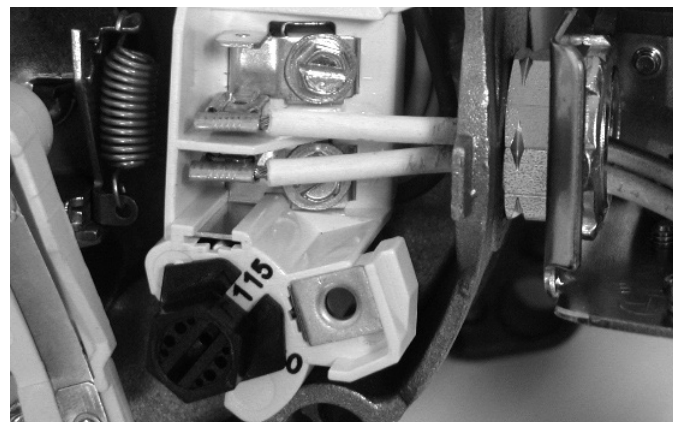

Figure 9 - Voltage set to 115 V, Dial Type
2. Turn the dial counter-clockwise until 115 shows in the dial window as shown in Figure 9.